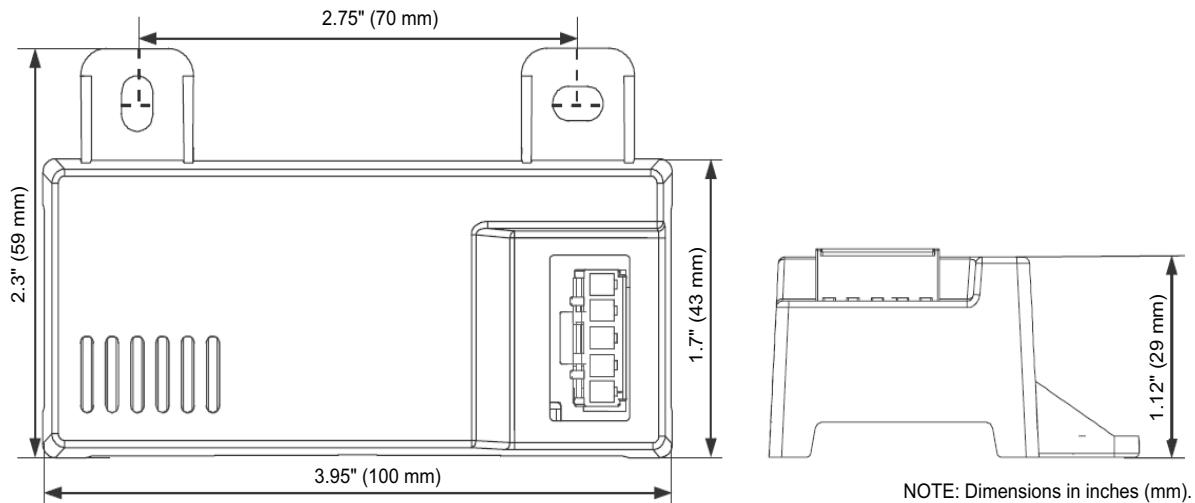
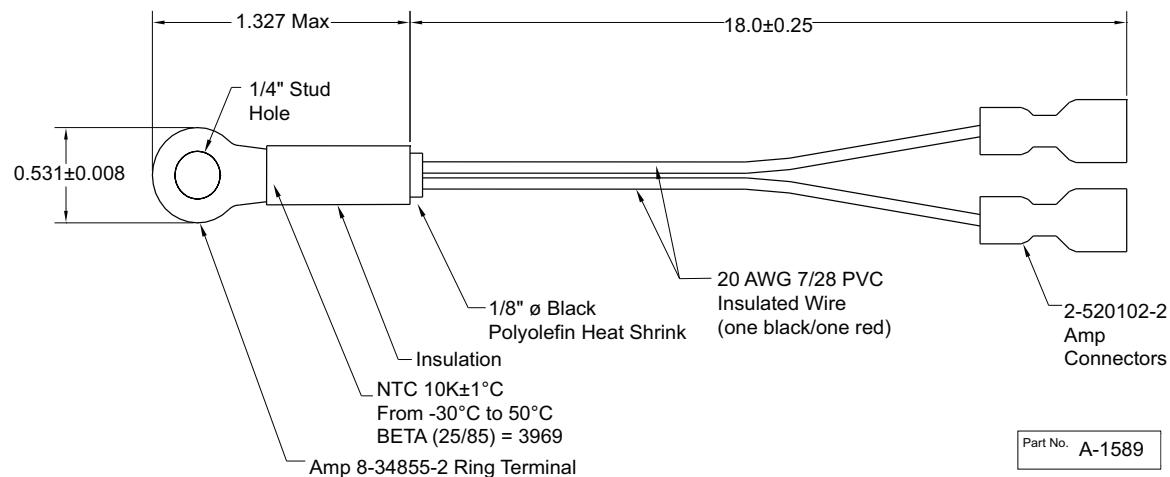
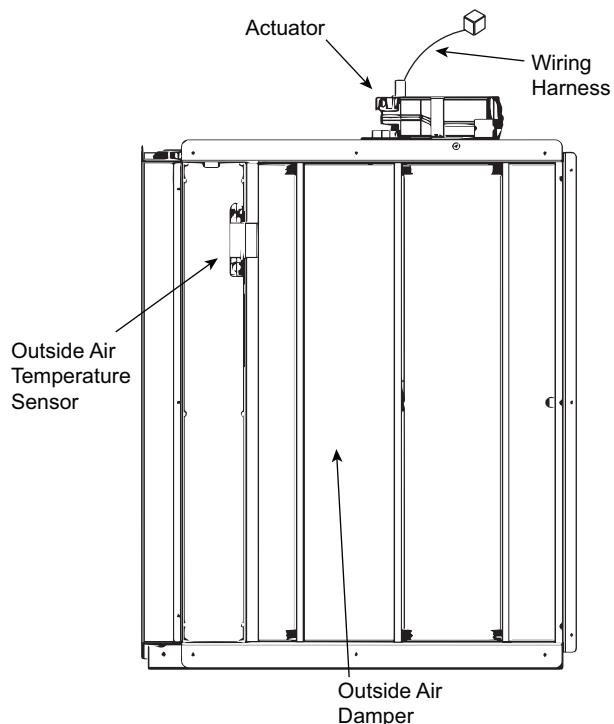

Fig. 75 — HH57LW001 Dimensional, Connection and Switching Information
Fig. 76 — HH79NZ039 Dry Bulb and Mixed Air Sensor Wiring
Fig. 77 — EconomizerONE Component Locations (CRECOMZR108A00 Shown)
When using the HH57LW001 enthalpy sensor (see Fig. 75) for outside air changeover, the existing HH79NZ039 dry bulb sensor (see Fig. 76) must be removed. The enthalpy sensor will be mounted in the same location as the dry bulb sensor (see Fig. 77). When the enthalpy sensor's OA (Outside Air) temperature, enthalpy, and dew point are below their respective setpoints, the outside air can be used for free cooling. When any of these are above the setpoint, free cooling will not be available. Enthalpy setpoints are configurable and create an enthalpy boundary according to the user's input. For additional details, see Fig. 78-79 and Table 33.
The optional enthalpy control sensor (P/N: HH57LW001) communicates with the POL224 economizer controller using the 5-wire harness, 48TC005213. The HH57LW001 sensor can be used as a single outside air enthalpy, a differential return enthalpy, or a differential return temperature sensor. Refer to the base unit control wiring diagrams found earlier in this book to wire the HH57LW001 enthalpy sensor for each option. Use Fig. 75 and Table 35 on page 63 to locate the wiring terminals for each enthalpy control sensor.
Economizers are shipped standard with an HH79NZ039 outside air dry bulb sensor (see Fig. 76). System default setting (high temp limit) is 63°F (17°C) and has a range of 48°F to 80°F (9°C to 27°C). Sensor is factory installed on economizer.
If installing the optional HH57LW001 enthalpy sensor, the HH79NZ039 dry bulb outside air sensor must first be removed. Wire sensor to harness 48TC005213 and the (5) wires from the harness to the EconomizerONE harness in the return air chamber. Harness 48TC005213 has a 5-pin plug that connects directly to the HH57LW001 enthalpy sensor. Refer to the base unit control wiring diagrams earlier in this book for wiring connections. Refer to Fig. 75 and Table 35.